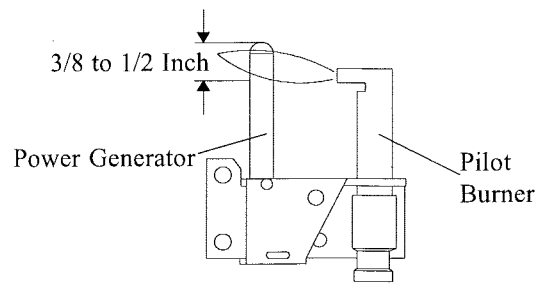

FIGURE 7. PILOT BURNER ADJUSTMENT
2. Adjust pilot key to provide properly sized flame. See Figure 7 for properly sized flame.